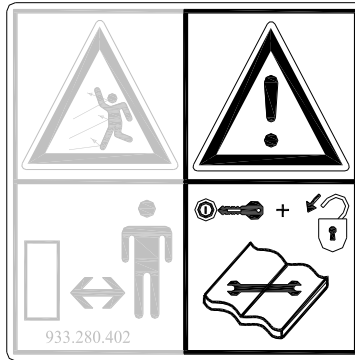
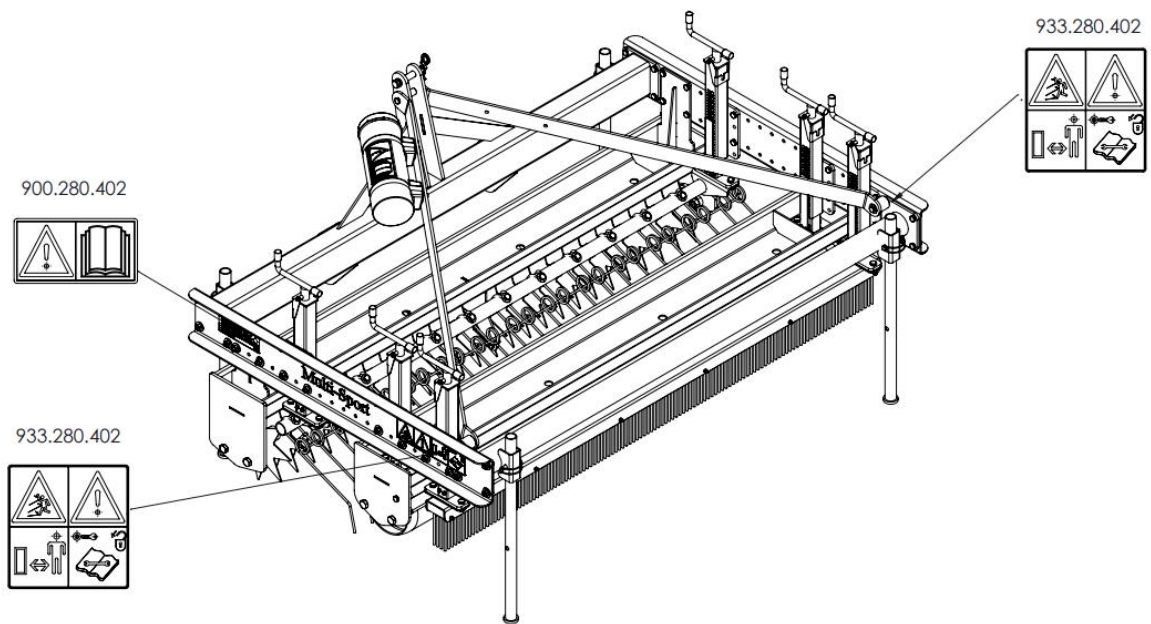

Figure 2
Figure 5
Always switch off the tractor motor and take the tractor's key out off the ignition in case of maintenance, adjusting and repairs (Figure 2).
Safety stickers (Figure 2, 3 and 4) with an identical meaning are attached to the sideboards (Figure 5) of the Multi-Sport. These safety stickers must always be clearly visible and legible and must be replaced in case they have become damaged.
7. Location of the safety stickers (Figure 5)